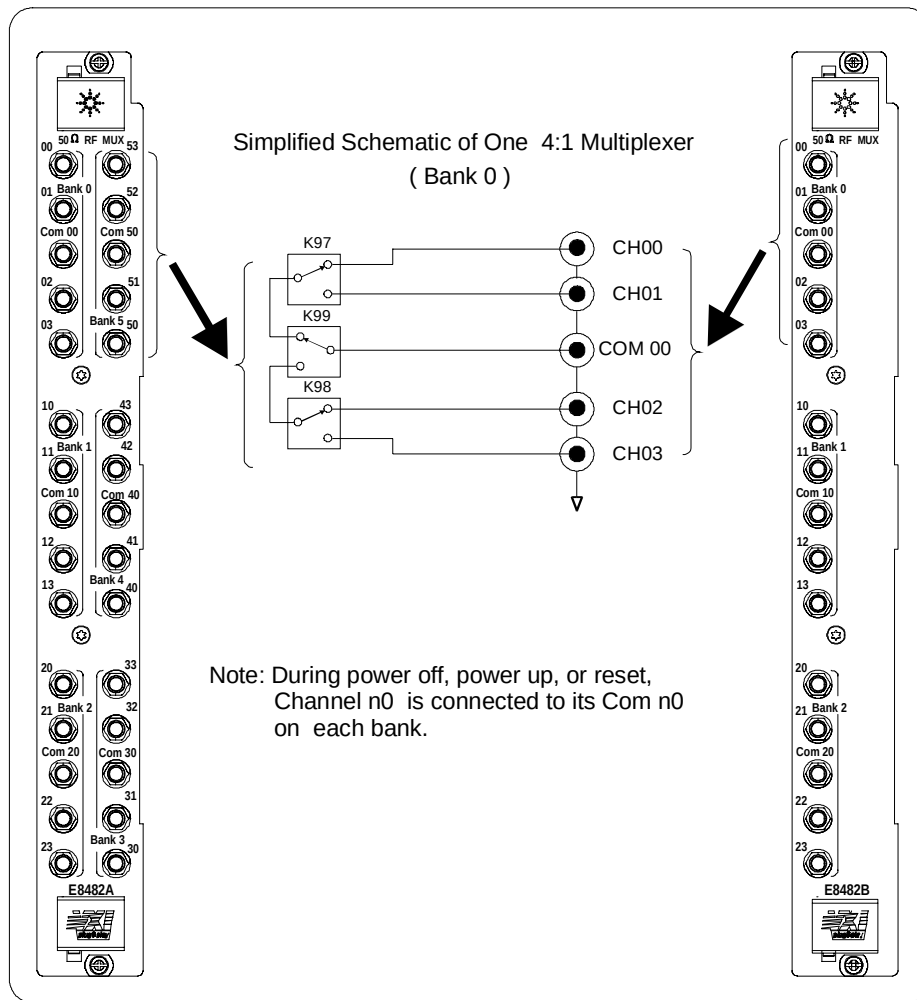

Figure 1-3. Simplified Schematic of the RF Multiplexers
As shown in Figure 1-3, the E8482A consists of six banks of channels (banks 0 - 5) to form six 1x4 RF multiplexers, while the E8482B consists of three banks of channels (banks 0 - 2) to form three 1x4 RF multiplexers. The switching sections of each bank are identical.
- Connect the DMM (Agilent 3458A) between the center conductor of the COM 00 connector and the center conductor of the channel 00 connector (see Figure 2-1). Refer to Figure 1-3 for the channel connector locations on the module's front panel.